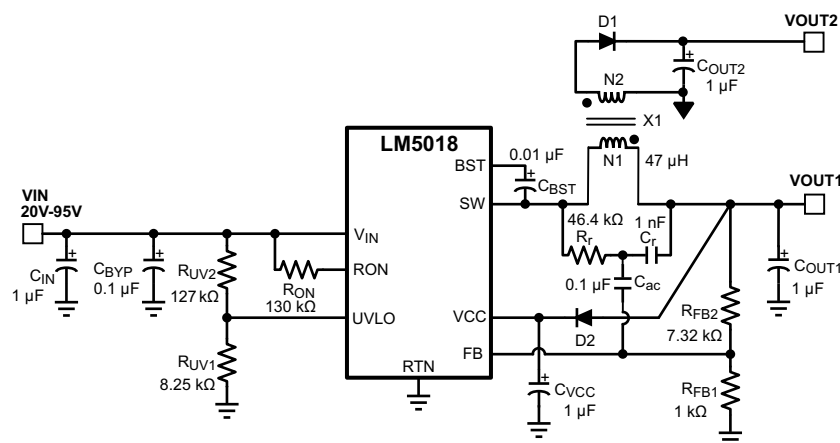

图 8-5. Isolated Fly-Buck™ Converter Using LM5018
An isolated supply using LM5018 is shown in 图 8-5. Inductor (L) in a typical buck circuit is replaced with a coupled inductor (X1). A diode (D1) is used to rectify the voltage on a secondary output. The nominal voltage at the secondary output ( $V_{OUT2}$ ) is given by 式 20.